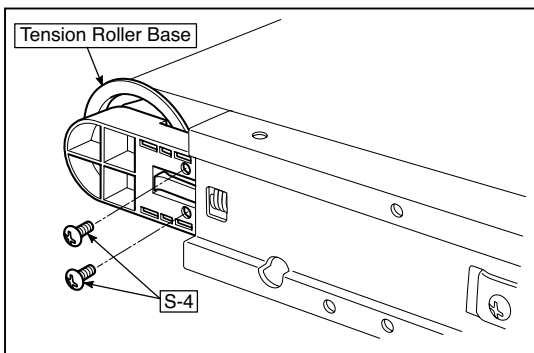

Fig.25
- 3.Remove the stopper “S-4” screws in the (two upper and lower) Tension Roller Bases shown in the figure 25.